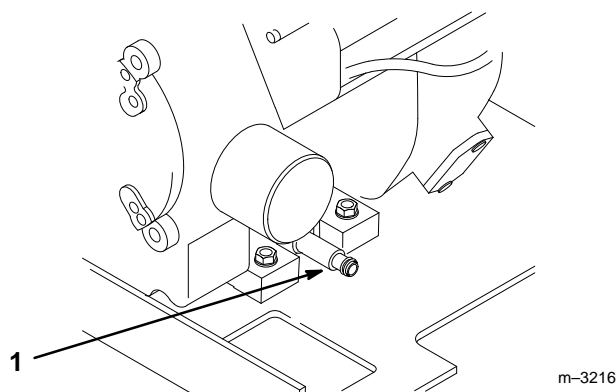

Figure 18
5. Open the drain valve by turning it counterclockwise, pulling out as you turn it (Fig. 18).